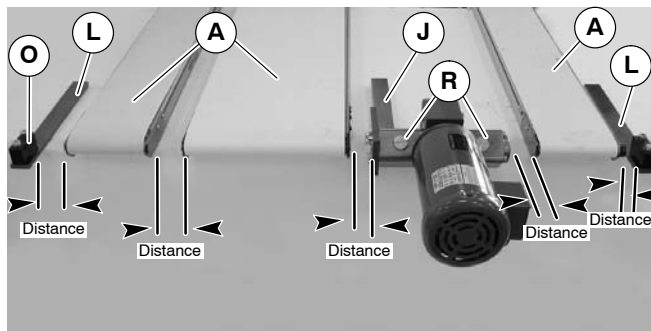
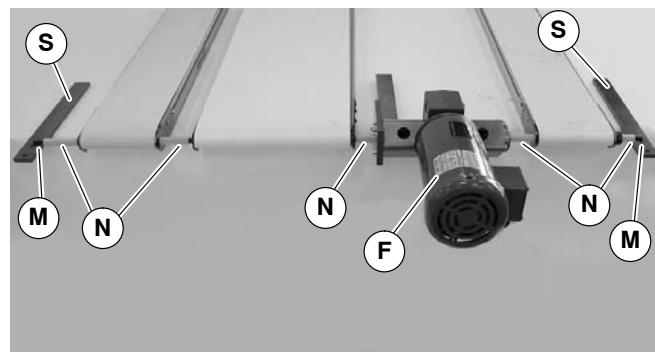

Figure 19
Figure 21
11. Align conveyors between gearmotor support assembly (J of Figure 19) and bearing support assembly (L).
NOTE: Do not secure the conveyors (A of Figure 19) to the mounting surface.
12. Cut shaft cover (N of Figure 21) into pieces to match each distance (Figure 19) minus 1/16" (1.5 mm).
15. Slide hex shafts (M of Figure 21) through conveyors and shaft cover pieces (N) on both sides of gearmotor assembly (F) and into flex couplings.